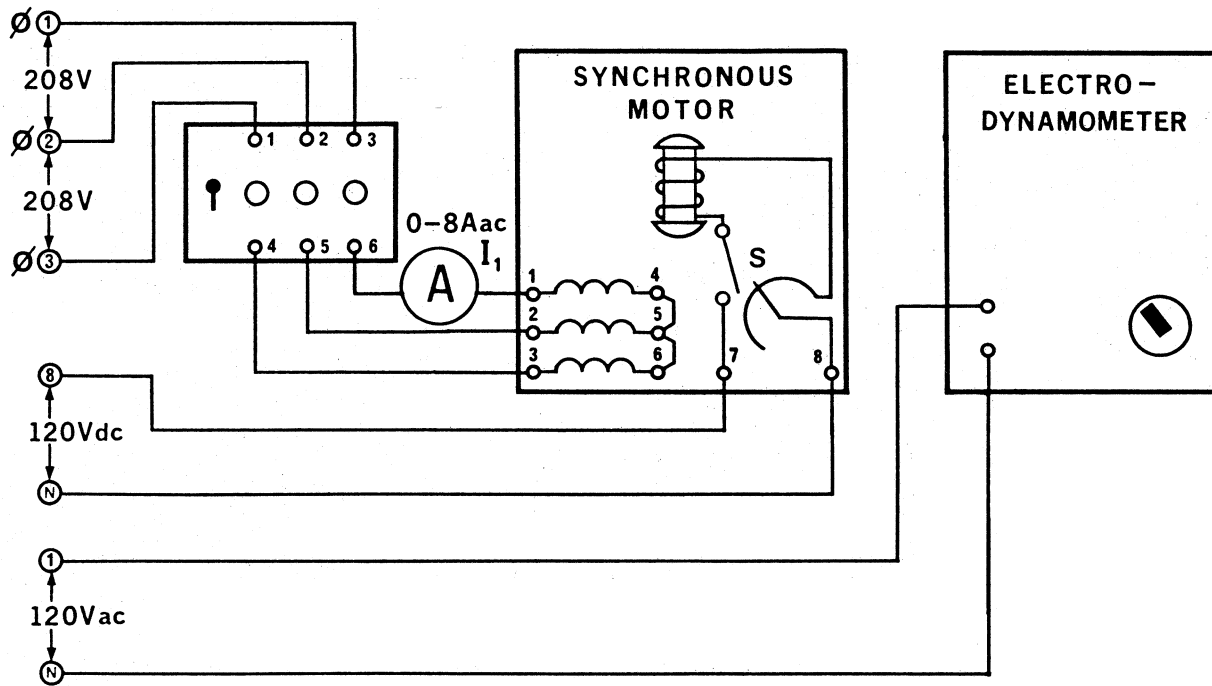

Figure 7-2.
6. Using your Electrodynamometer and Synchronizing Module, connect the circuit shown in Figure 7-2. Couple the motor to the electro-dynamometer with the timing belt.